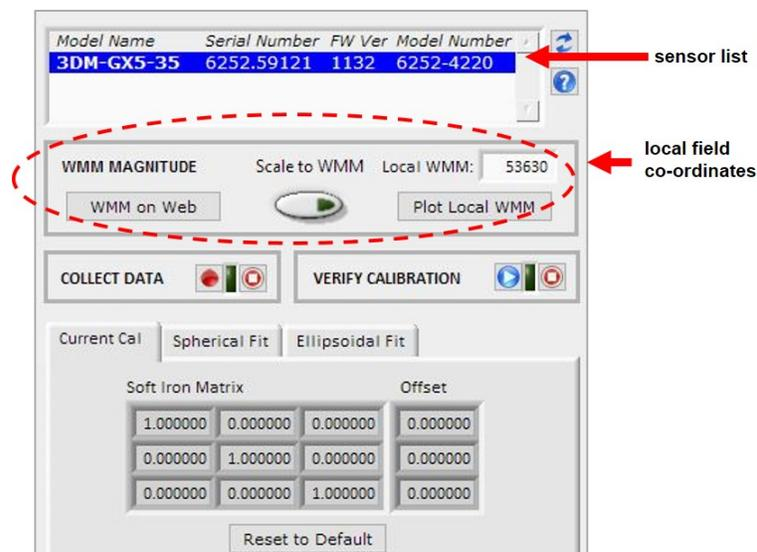

Figure 20 -Sensor Menu
- The sensor should automatically appear in the sensor list. If not, use the Refresh button to query it and then select the sensor (*Figure 20 - Sensor Menu*).